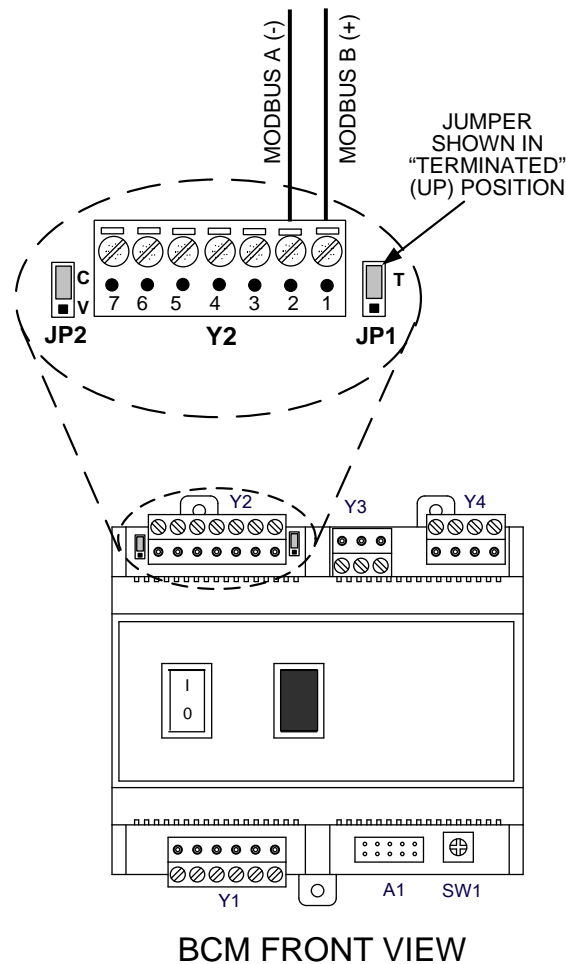

Figure 2-9: RS485 (Modbus) Wiring For Modlex Series Boilers
RS485 wiring connections are made at the MODBUS terminals of each Boiler's BCM Module as shown in Figure 2-9. Connect the wiring as shown below:
4. The last BCM in the daisy-chain must have the termination jumper engaged as shown in **Figure 2-9**.